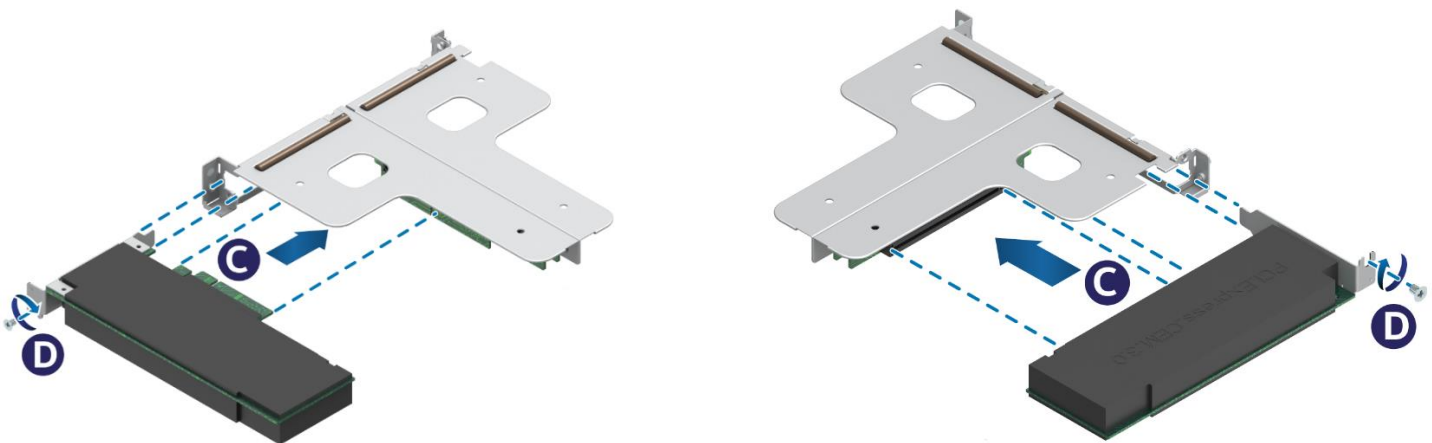

Figure 80. PCIe* Add-in Card Installation
9. Reinstall the PCIe* add-in card into the riser card (see Figure 80).